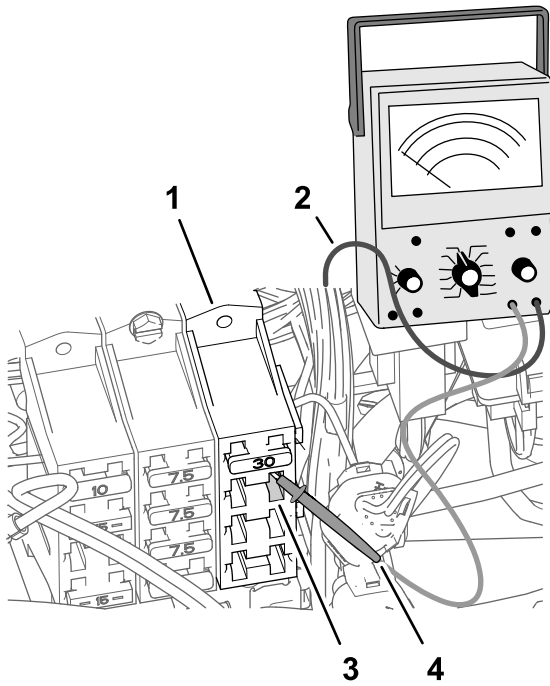

Figure 234
- At fuse block 3 of the machine, insert the multi-meter probe into contact 4 (the right column) of fuse-socket 2 as shown in Figure 234.